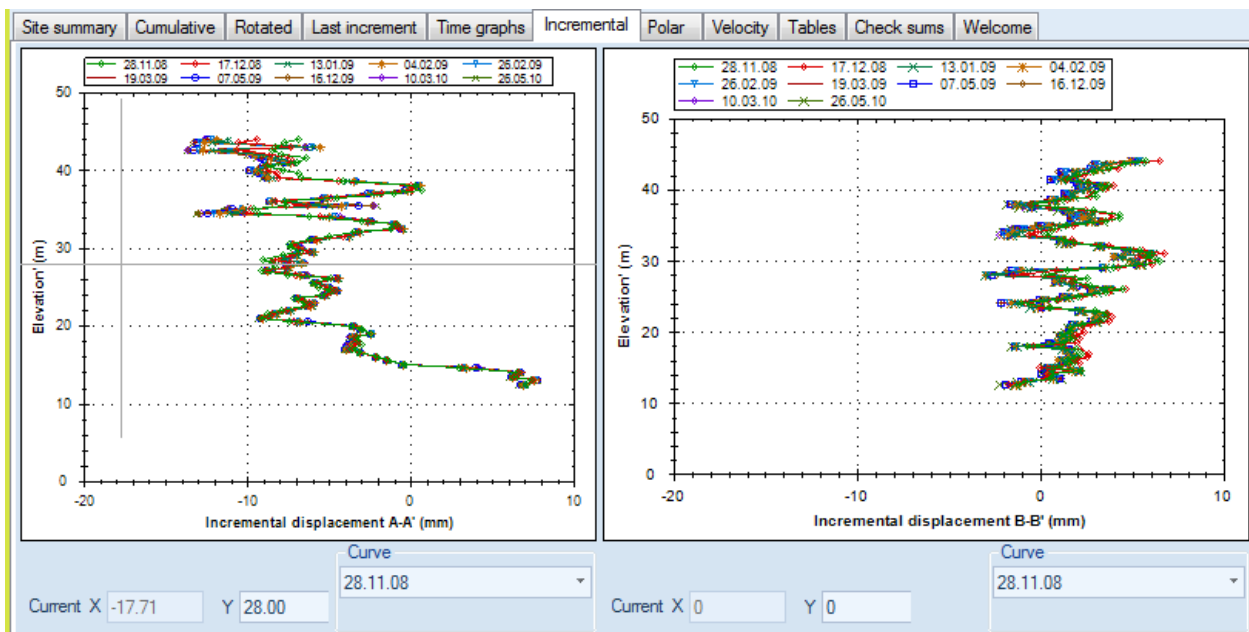

Figure 7.9: Incremental displacements vs. elevation for current inclinometer
- **Incremental displacement:** These graphs show the change in the tube verticality on each reading step (Fig. 7.9)